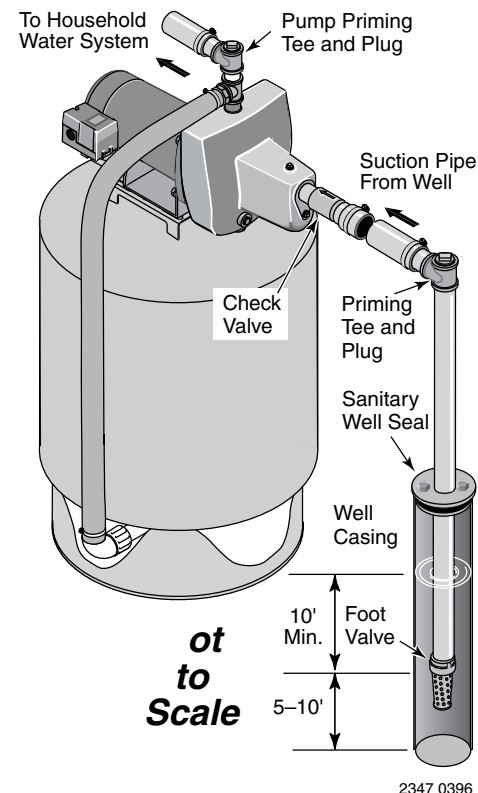

Figure 2: Cased Well Installation
CASED WELL INSTALLATION, 2" OR LARGER CASING (Figure 2)
- Step 2. Assemble the foot valve, strainer, and well pipe (see Figure 2). Make sure that the foot valve works freely.
- Step 4. Install a priming tee, priming plug, and suction pipe to the pump (see Figure 2). Connect the pipe from the well to the pump suction port, using the fewest possible fittings – especially elbows – as fittings increase friction in the pipe (however, include a foot valve – see Figure 2). The suction pipe should be at least as large as the suction port on the pump. Use PTFE pipe thread sealant tape on threaded pipe joints. Support the pipe so that there are no dips or sags in the pipe, so it doesn't strain the pump body, and so that it slopes slightly upward from the well to the pump (high spots can cause air pockets which can air lock the pump). Seal the suction pipe joints with PTFE pipe thread sealant tape. Joints must be air- and water-tight. *If the suction pipe can suck air, the pump cannot pull water from the well.*